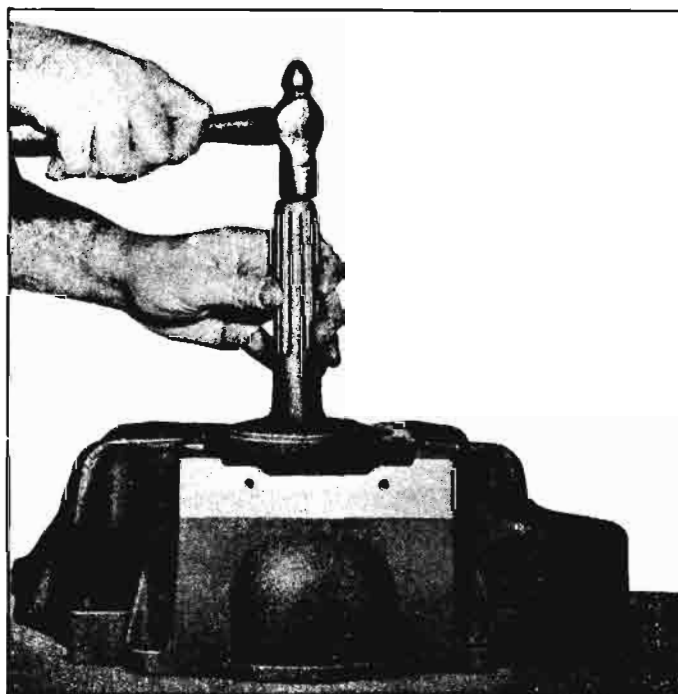

Fig. 6A-89—Installing Flywheel Housing Seal, using Tool J-2221-A
3. Lubricate seal outer surface (beaded area) with lubriplate or petrolatum and install with a suitable tool as shown in Figure 6A-89.